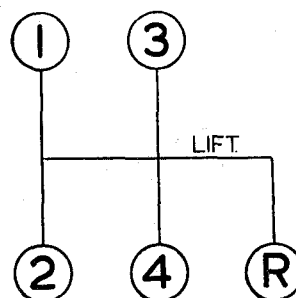

Fig. 2. Gear positions.
**Gear Lever.** See Fig. 2 for gear positions.